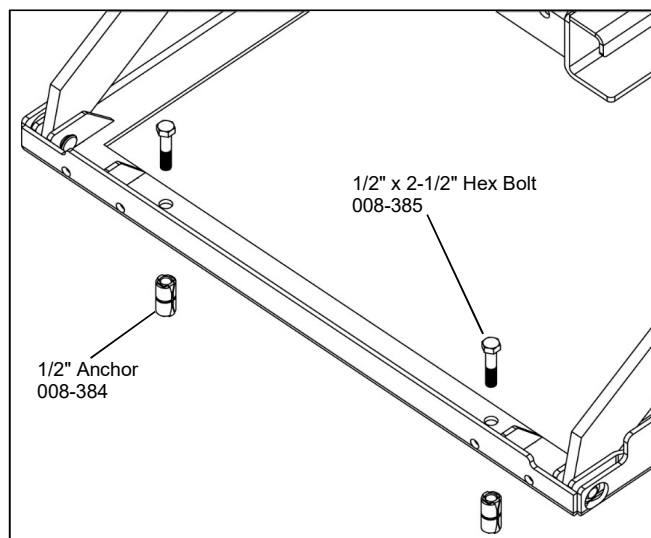

fig.6
Insert the anchors (008-384) into the drilled holes, making sure that the threaded cone end is inserted first (see fig.6).
Return the lift to the desired position and install (4) 1/2" x 2-1/2" hex bolts (008-385, provided) (see fig.6).